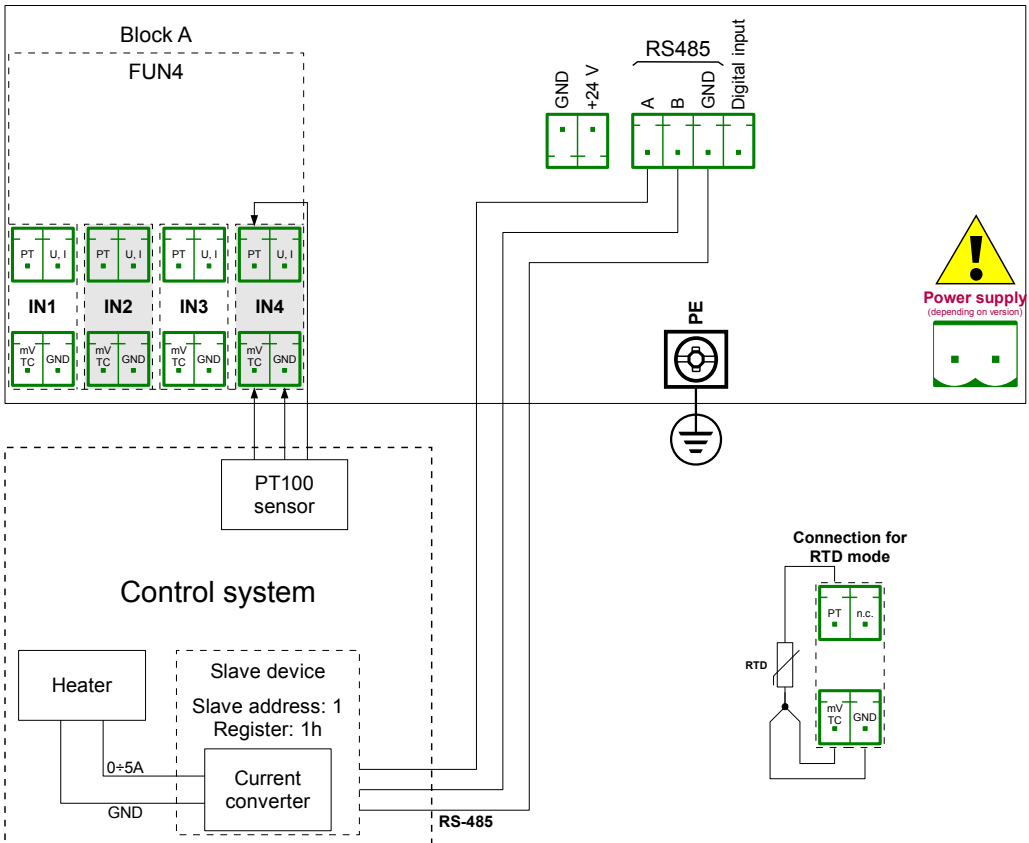

Fig. 7.74. Schematic diagram for the hardware configuration FUN4 and MB1 Modbus port
Before measuring and regulating the temperature, the user should configure the device as follows and then connect the RTD sensor and the Current converter to the device. An example of the connection is shown in **Fig. 7.74.**
- **Source** parameters set as **Inp.A4: Universal** (see **Fig. 7.74**),
- **Precision** parameters set as **0.00** , because with this precision we can send a signal from the controller to the Current converter (see **Fig. 7.74**),